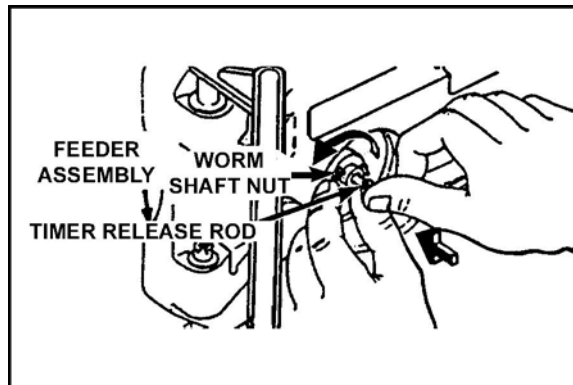

Figure 9. Timer release rod and worm shaft nut.
- (1) Press the timer release rod (Figure 9).
- (2) Rotate the worm shaft nut to the left until two clicks can be heard (Figure 9).